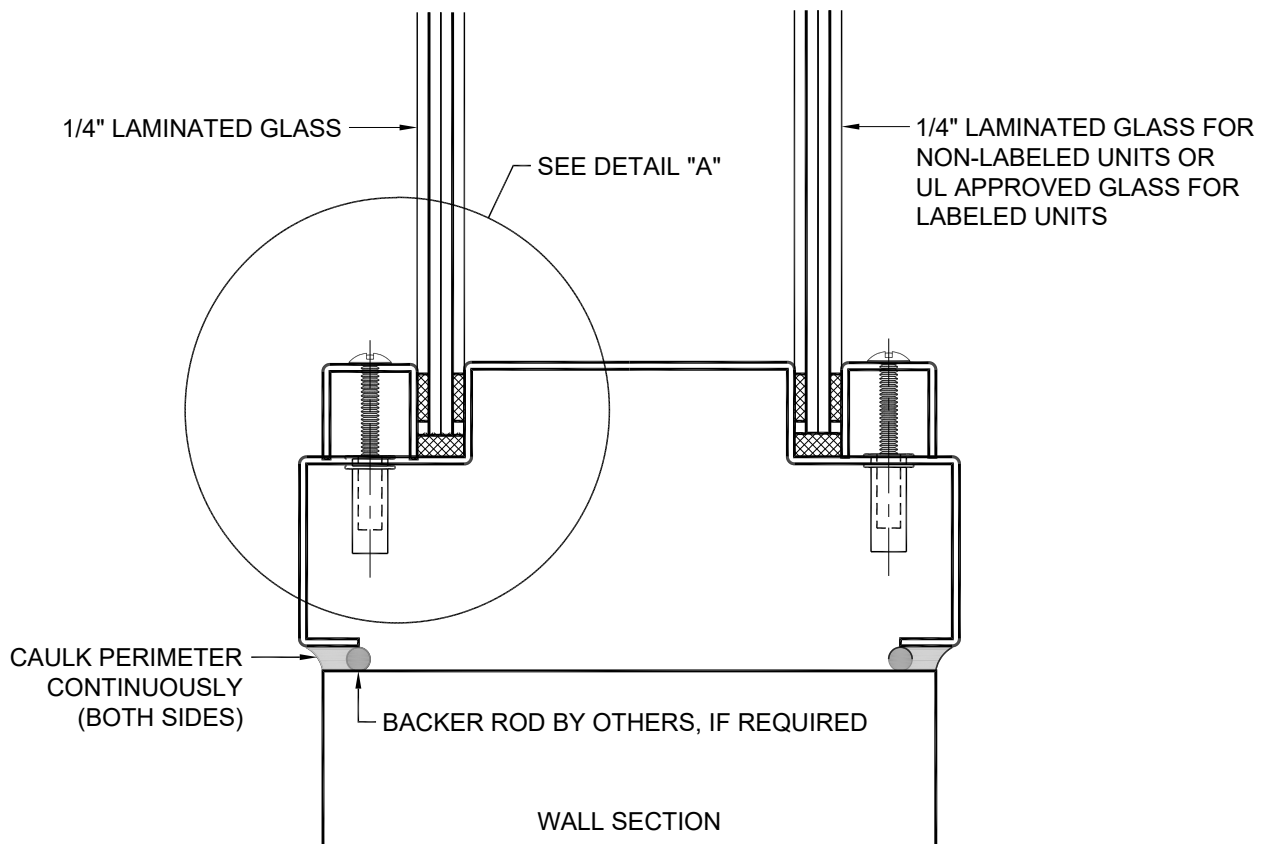

FIGURE 2
- G. Caulk frame continuously around perimeter of frame on both sides as shown in Figure 2.
- F. Caulk frame continuously around perimeter of frame on both sides as shown in Figure 2.
- D. Caulk frame continuously around perimeter of frame on both sides as shown in Figure 2.
- D. Caulk frame continuously around perimeter of frame on both sides as shown in figure 2.
- A. Locate the 5/16" x 1/2" adhesive backed sponge neoprene on the sill portion of the frame rabbet as shown in **Figure 2**.
- B. Place 3/16" x 1/2" adhesive backed neoprene continuously around perimeter of frame stop, as shown in **Figure 2, Detail "A"**.
- C. Place 3/16" x 1/2" adhesive backed sponge neoprene on the entire length of each loose stop as shown in **Figure 2, Detail "A"**.